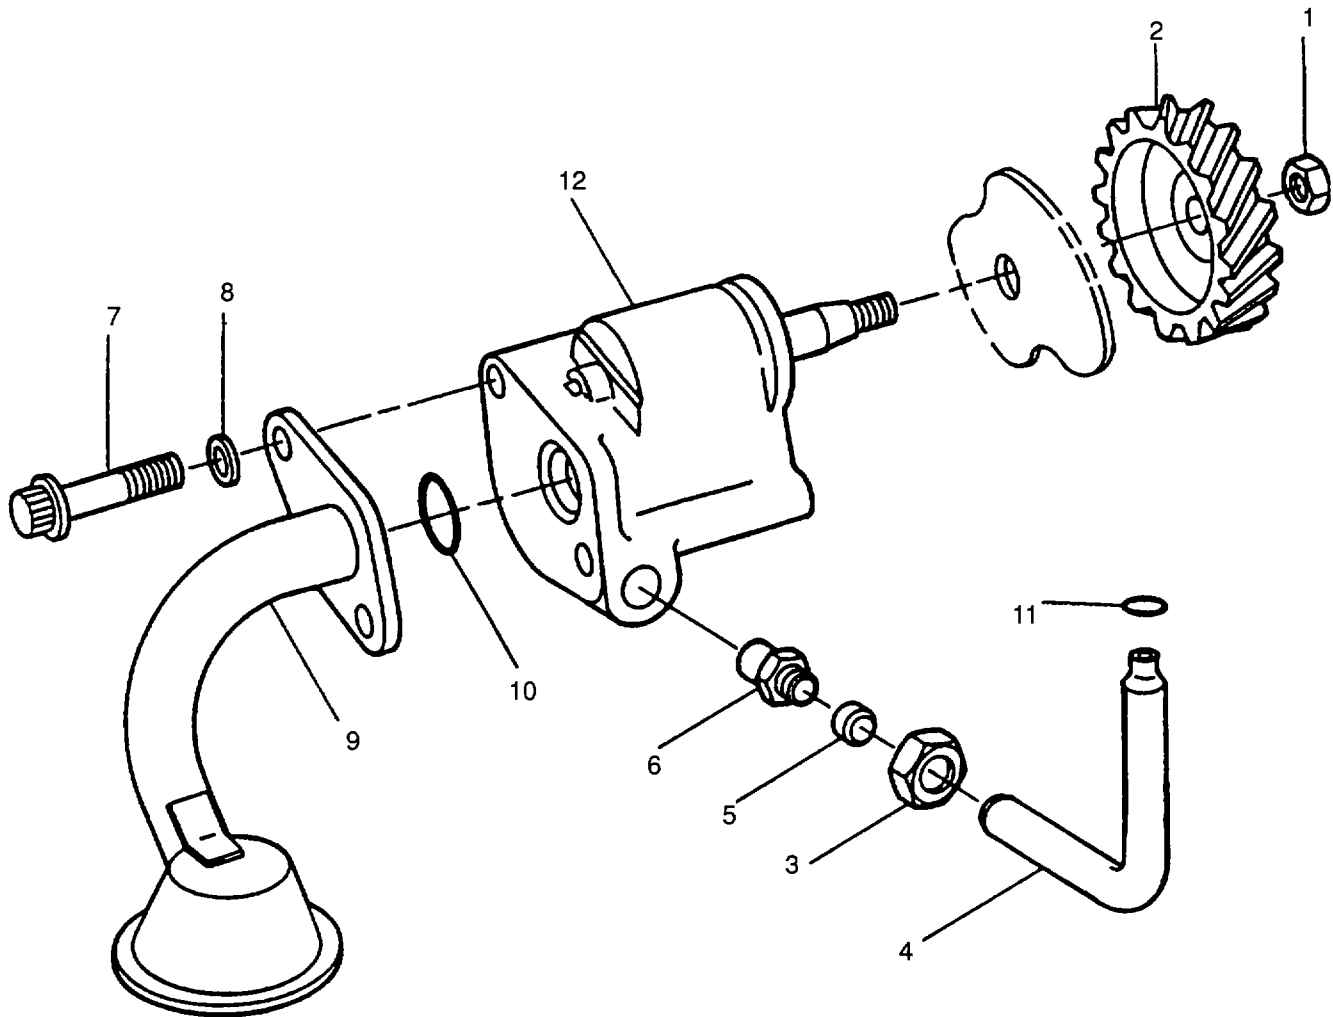

FIGURE 3-53. Oil Pump Assembly
- b. Remove nut (1, FIGURE 3-53) and pull gear (2) using a suitable puller. If a suitable puller is not available, loosen nut (1) several turns and apply force between front plate and gear (2) on two sides of gear with a small pry bar. Strike nut end of shaft while applying force to gear until gear is free of tapered shaft. Remove nut (1) and gear (2).
- a. Install new preformed packing (11, FIGURE 3-53) in outlet tube bore in engine block.
- b. Install new preformed packing (10) on pickup tube (9) cover.
- c. Install fitting (6), sleeve (5), and tube (4). Tighten nut (3).
- d. Install pump (12) with oil pump intake tube (9) on front plate and secure with two bolts (7) and two flatwashers (8). Tighten bolts to 35 ft-lbs (47 Nm).
- f. Install drive gear (2) and nut (1). Tighten nut to 55 ft-lbs (75 Nm).
- g. Stake nut (1) to shaft by applying three center punch marks.